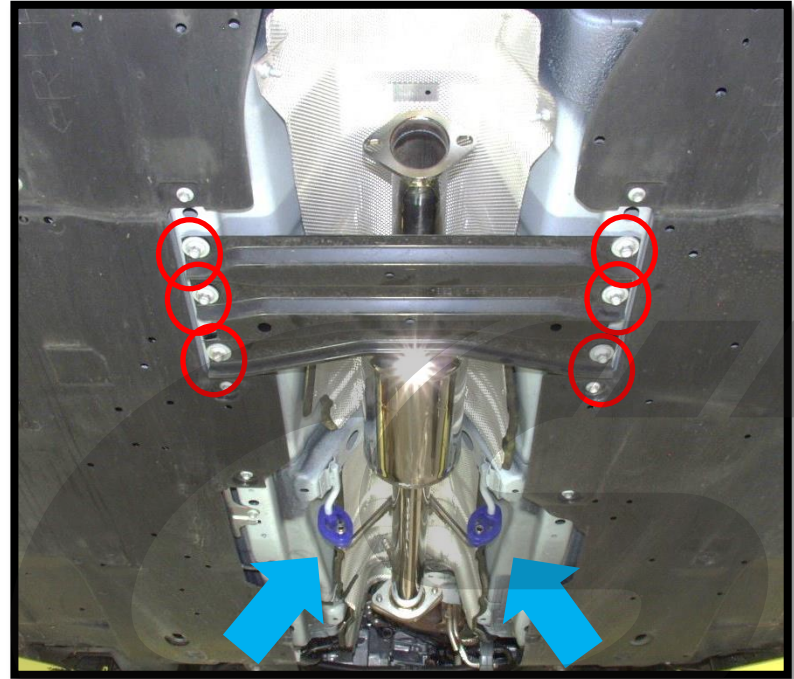

Figure 4a
a) Place the forward section of the CorkSport exhaust pipe into the blue rubber hangers (blue arrows in Figure 4a). Verify that the o2 sensor bung is placed upward and toward the front of the vehicle (green arrow in Figure 4b).
b) Replace the mid chassis brace and fasten it in place with the six (6) 12mm bolts (red circles in Figure 4a). Torque to 15-17ft-lbs.